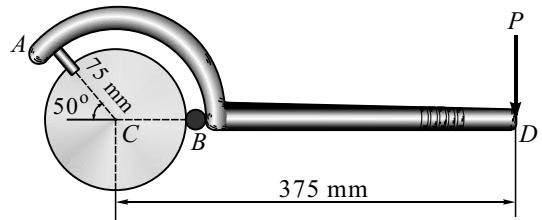

Fig. 3.E22
23. A smooth pipe rests against the wall at the points of contact *A*, *B* and, *C*, as shown in Fig. 3.E23. Determine the reactions at these points needed to support the vertical force of 200 N. Neglect the pipe's thickness in the calculation.